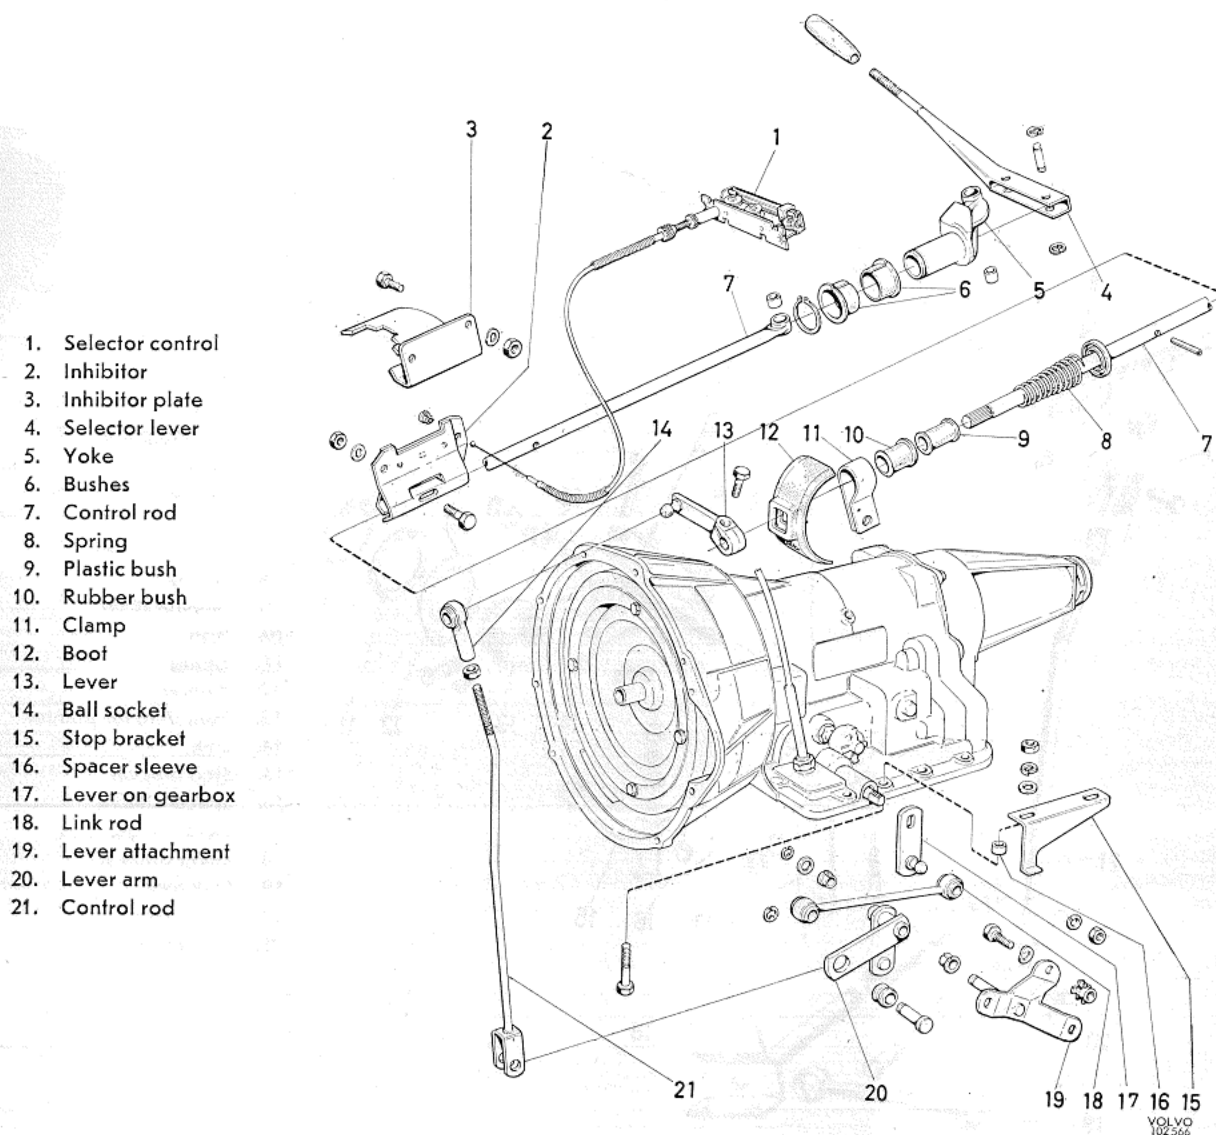

Fig. 83. Selector controls, 140, 164
1. Disconnect the control rod (21, Fig. 83) from the control lever (13) on the operating rod (7) and from the lever arm (20). Remove the link rod (18). Disconnect and remove the levers.
3. Remove the upper and lower casing halves over the direction indicator switch and steering wheel lock. Remove the bolts (early prod.) in the selector lever (4) and take out the lever. On late prod. units release the bolt in the control rod and remove the nut on the ball joint.